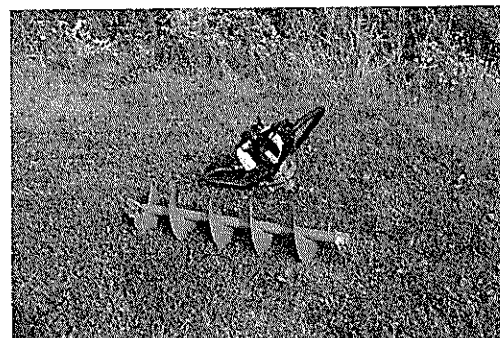

FIGURE 25
- b. Disconnect Hole Digger from auger and/or auger extension and store in level configuration. FIGURE 25